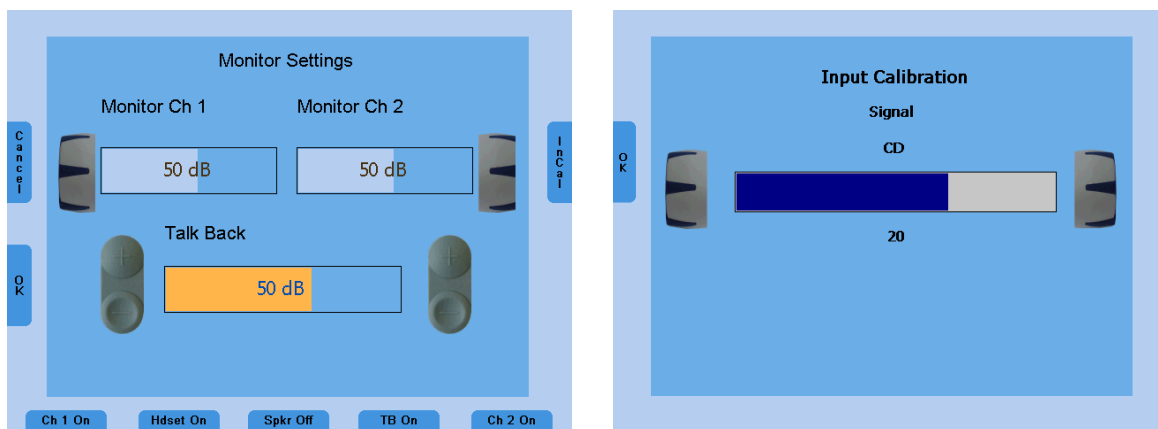

Figure 10 - Input Calibration
To calibrate the CD speech input select CD with the signal selector key (11), (15). Press the Monitor button (6) and then InCal (19) and the calibration screen appears (see Input Calibration screen in Figure 10).